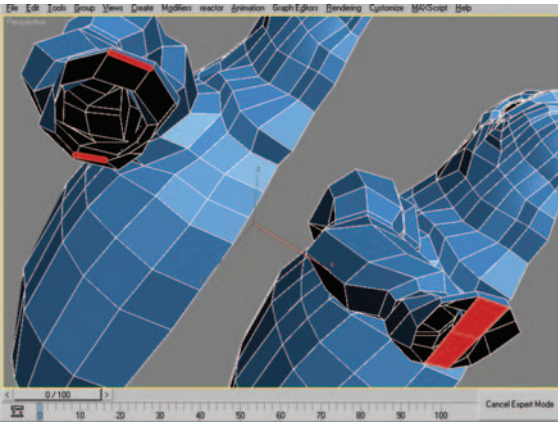

Figure 9.55 Edge selection (left) and new polygons created using Bridge (right).
16. Select the two edges seen in Figure 9.55 (left) and use the Bridge settings dialog box with a segments value of 2 to create two new polygons that span the space between the selected edges (Figure 9.55, left).